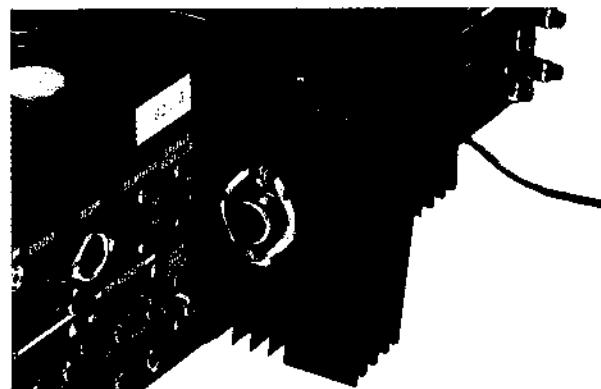

Fig. 2-16 Power transistor removal
- Carefully draw back the heat sink, see Fig. 2-16 and then remove the two screws ($\#B\ 3\times14$), ($\#B\ 3\times16$) and plate nut securing the power transistor and power transistor socket to the heat sink.